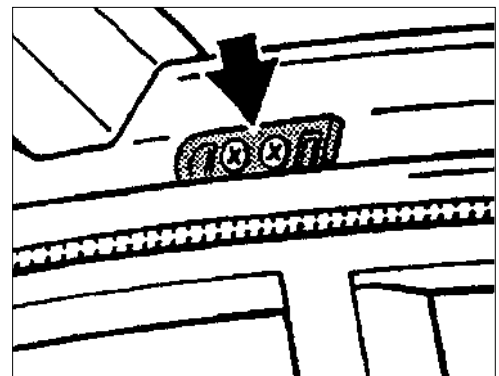

Figure 15
- With the glass roof closed remove the rear axle plate (Figure 15, arrow)